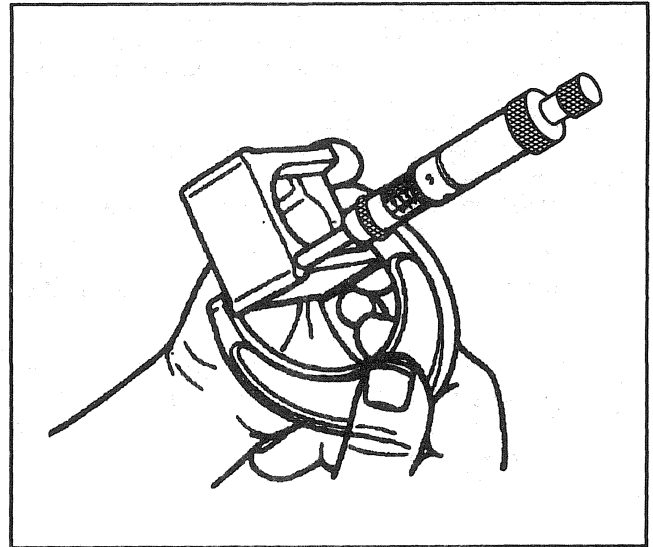

Figure 7—Measuring the Thrust Block
4. Measure the original thrust block at the outer corner with a micrometer (Figure 7).